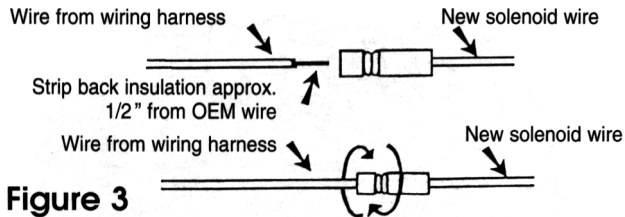

Figure 3
6. Strip back lead wires cut from the original solenoid harness approximately 1/2" and twist braided wire to form a tight strand. Loosen the Posi-Lock™ Connectors. Insert the bare wire into the connector until it bottoms out. Tighten the connector. Repeat this procedure for all of the connections (Figure 3**).**